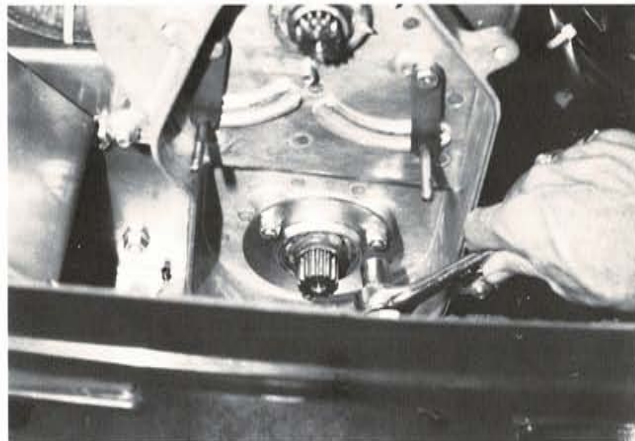

Fig. 13
11. Remove six lock-nuts that secure bearing flanges. Then remove flanges and "O" rings (Fig. 13).